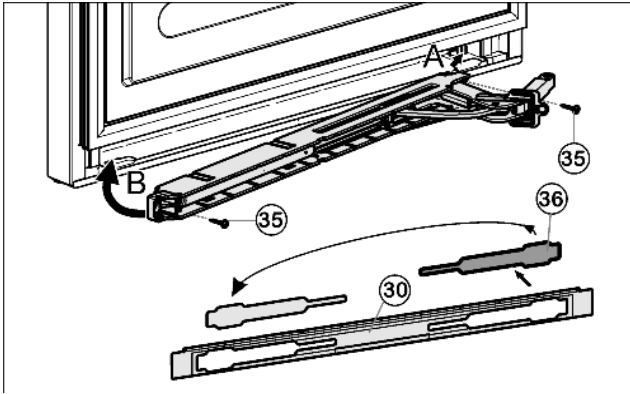

Fig. 19
- ▶ Remove the cover *Fig. 19 (36)* from the faceplate *Fig. 19 (30)* and re-insert it at the other side.
- ▶ Engage the soft stop unit with the joint on the hinge side (A) and swivel into place (B).
- ▶ Screw down the soft stop unit (2 Torx 15) *Fig. 19 (35)*.